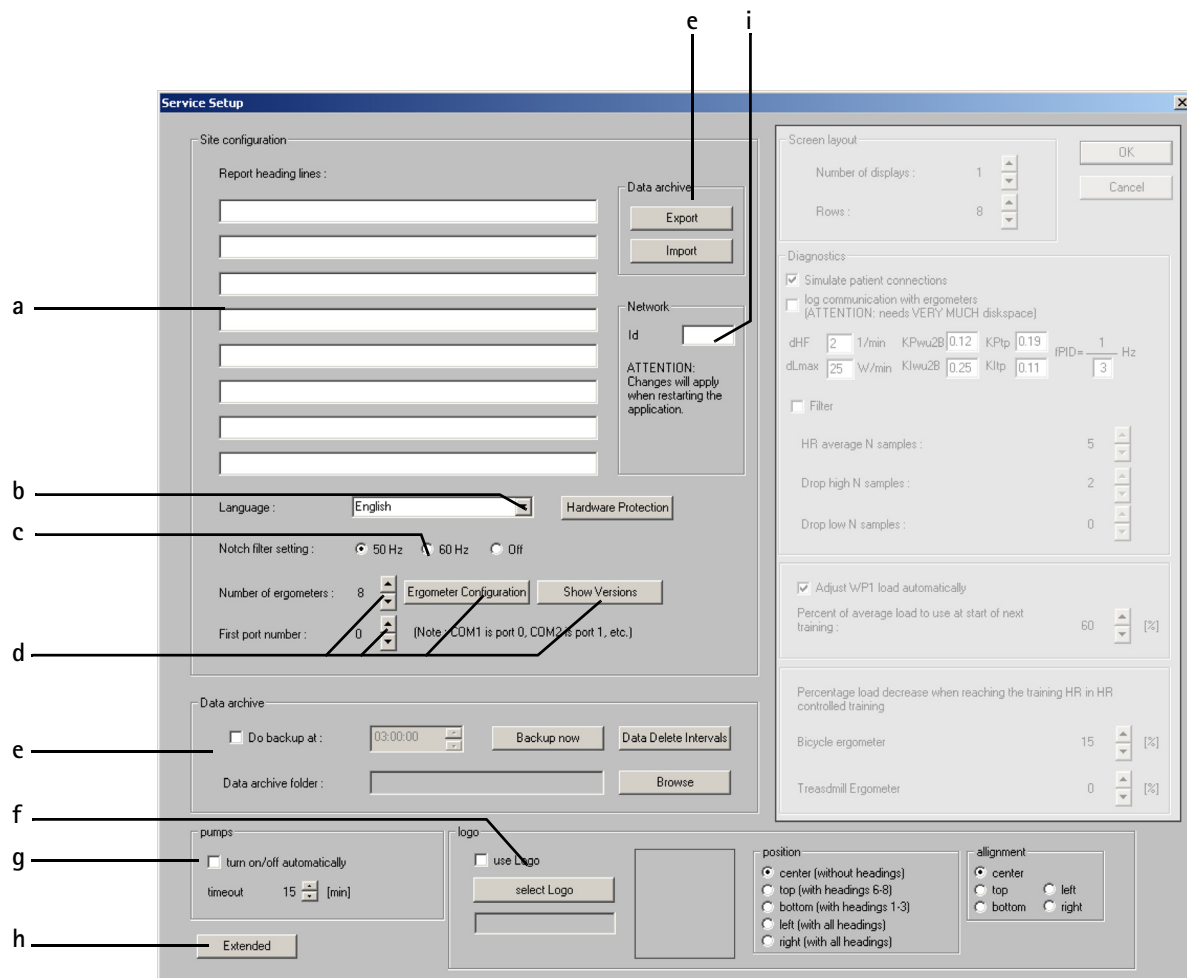

FIGURE 6.2: SETUP SERVICE DIALOG
- Click **Expanded (h, Figure 6.2)** to open the configuration window.
- Click **Expanded** (h, Figure 6.2) to open the configuration window.